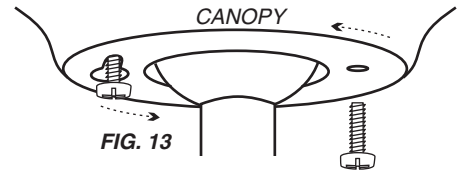

FIG. 13
V. With the motor in place and the wires out of the way, slide the canopy up to the hanging bracket. The canopy screw in the bracket will come through the large end of the key slot in the canopy. Fig. 13. Turn the canopy slightly, counter-clockwise, to hold in place, and insert remaining canopy screw. Tighten the screws.